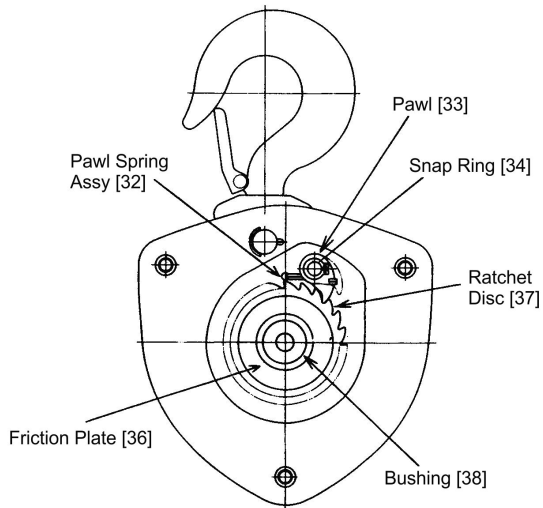

Figure 6-9 Pawl & Brake Assembly
- 15)** Apply machine oil to the pawl pin (in side plate A [12]) and join the pawl spring assembly [32] and the pawl [33] respectively to it. Fix them with a snap ring [34]. See figure 6-9.
- 17)** Wipe out any dirt on the friction disc [35], friction plates [36] and both sides of the ratchet disc [37] and check if the oil of the bushing [38] (bushing with oil in it) is adequate. Then place the friction plate, bushing, ratchet disc and friction plate respectively on the friction disc. (Make sure that the ratchet disc and the pawl mesh properly). See figure 6-9.